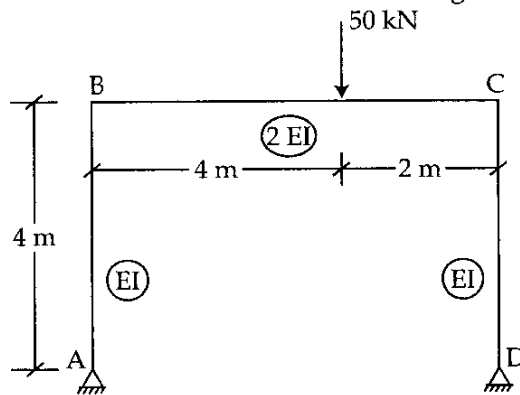

Fig. 3
- (b) Using the consistency of deformation method of analysis determine the horizontal reactions for the frame shown in Fig. 3. 10